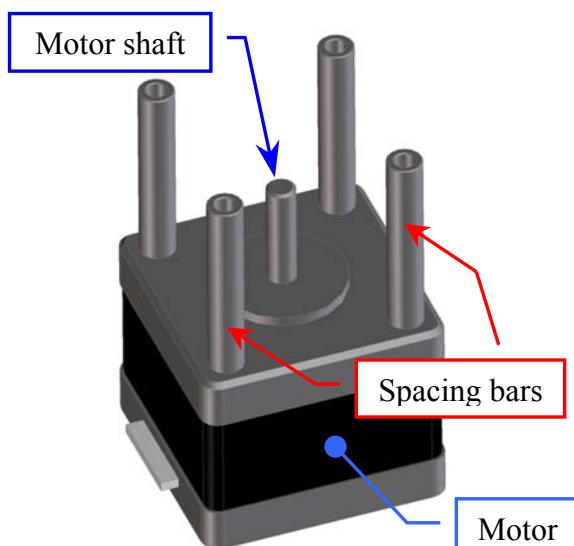

Fig. 126 – The four spacing bars of the Washing Station Motor
4. Unscrew the four spacing bars of the Washing Station Motor (**Fig. 126**) and take out them from the motor.
5. Screw the four spacing bars on the new Washing Station Motor (**Fig. 126**).